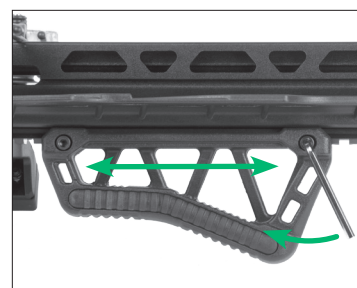

FIGURE 10
**To adjust the foregrip** (Part 9), loosen the two foregrip screws found on the left side of the crossbow, as seen in Figure 10. Once loose, you can slide the foregrip forward or backward along the bottom picatinny rail. When finished, tighten the screws to lock it into place.